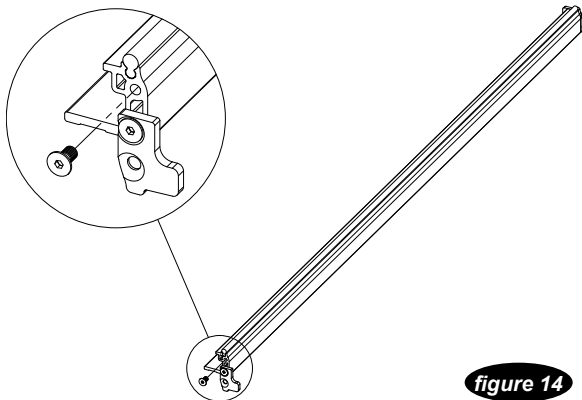

figure 14
1. Remove the top screw from the table stop plate on the right guide rail and rotate the plate 180°. (see figure 14) Extract the table from the opened end of the guide rails.